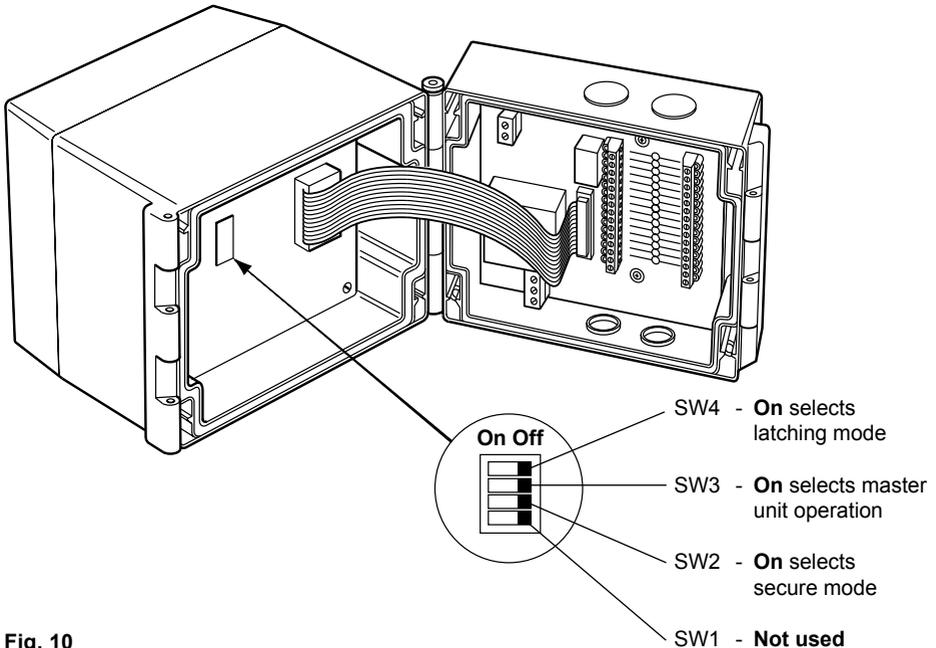

Fig. 10
There are three modes of operation which can be set using the switches housed inside the R16C monitor (see Figure 10).
The Latching Mode is selected by moving switch SW4 to the **'On'** position (see Section 4.1, Figure 10). When the R16C monitor is operating in Latching Mode the **Latching light (G)** is illuminated.
The Secure Mode is selected by moving switch SW2 to the **'On'** position (see Section 4.1, Figure 10). In the Secure Mode the operation of the unit is unaltered. **Key 1** can be pressed to test the R16C and **key 2** can be pressed (if Latching Mode has been set) to acknowledge a previously failed trap. However, any attempt at setting up via the keypad (see Section 4.6) will be ignored and the **Secure mode light (J)** will illuminate.
The Master Unit Mode is selected by moving switch SW3 to the **'On'** position (see Section 4.1, Figure 10). In Master Unit Mode the R16C monitors the relay output (PL2) of a number of R16C slave units.